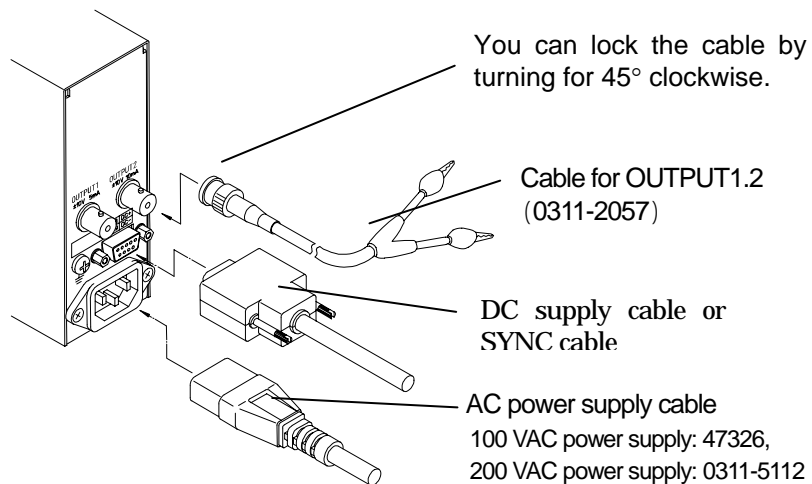

Fig.3-2 Connection of power supply cable and output cable
3.1.2 Connections of Power Supply Cable and Output Cable (See Fig. 3-2)